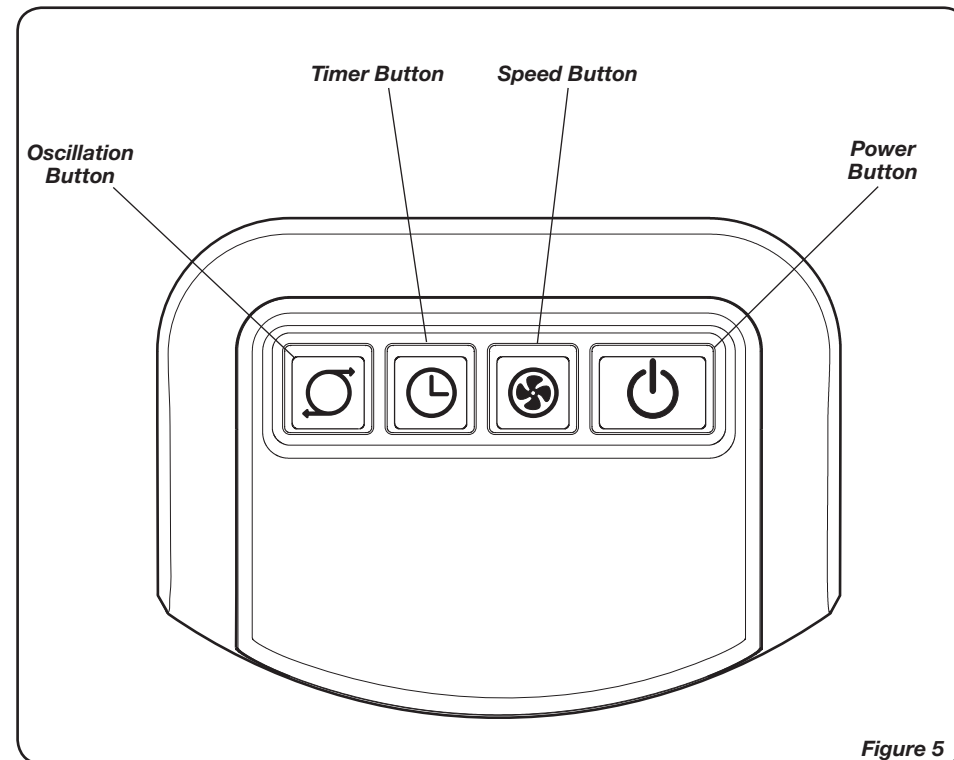
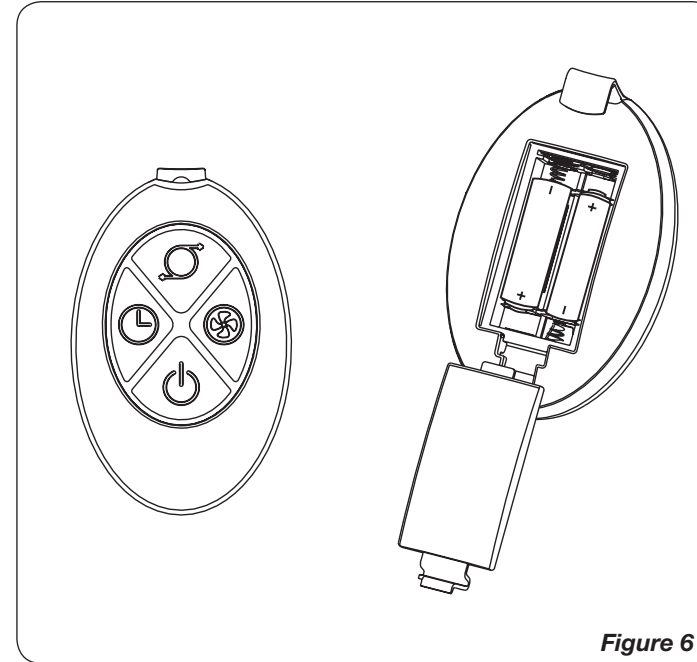

Figure 5
Figure 6
OPERATION (Figures 5 and 6)
This Fan may be operated by the Manual Controls located on top of the unit (as shown in *Figure 5*) or by the Remote Control (shown in *Figure 6*).
REMOTE CONTROL (Figures 6 and 7)
1. Install batteries (not supplied) as shown in *Figure 6*. The battery is size “AAA”.